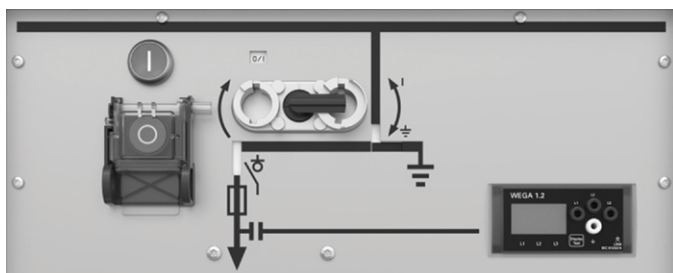

Figure 4-21: Control panel for fused load-break switch
3. Turn the selector into the full anti-clockwise position; see figure 4-21.